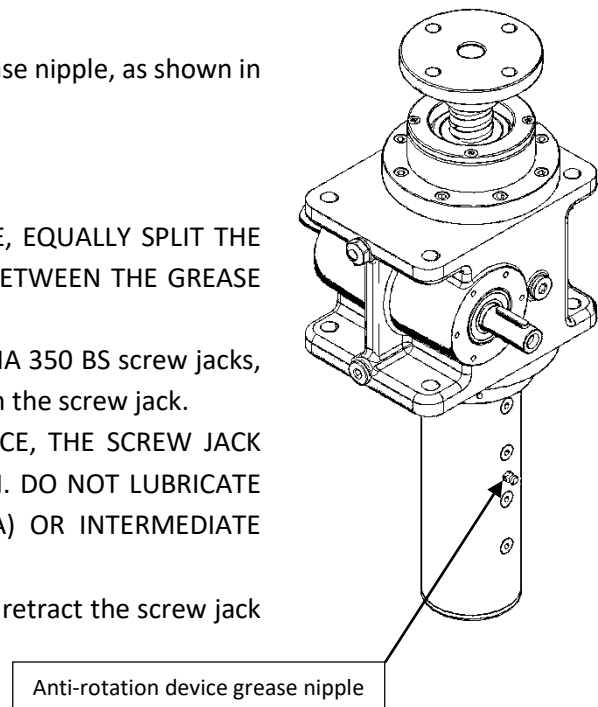

Figure 9.2 – Anti-rotation device lubrication
- Relube the anti-rotation device using proper grease nipple, as shown in Fig. 9.2.
- ⚠ WHEN LUBRICATING THE ANTI-ROTATION DEVICE, THE SCREW JACK MUST ALWAYS BE IN RETRACTED (LC) POSITION. DO NOT LUBRICATE THE ANTI-ROTATION DEVICE IN EXTENDED (LA) OR INTERMEDIATE POSITIONS!